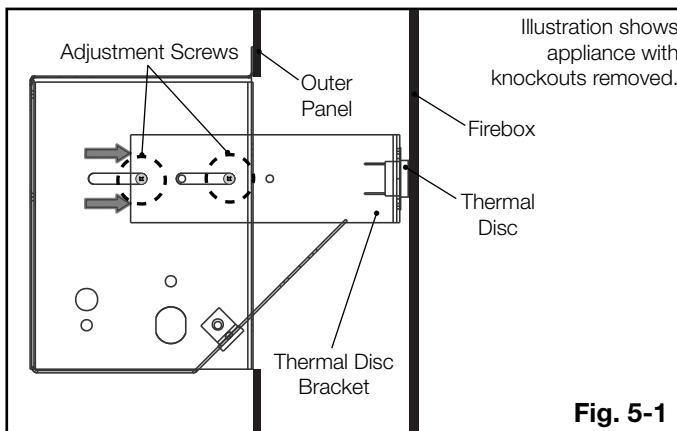

Fig. 5-1
1. Ensure the thermal disc bracket is in the correct position (**Fig. 5-1**).